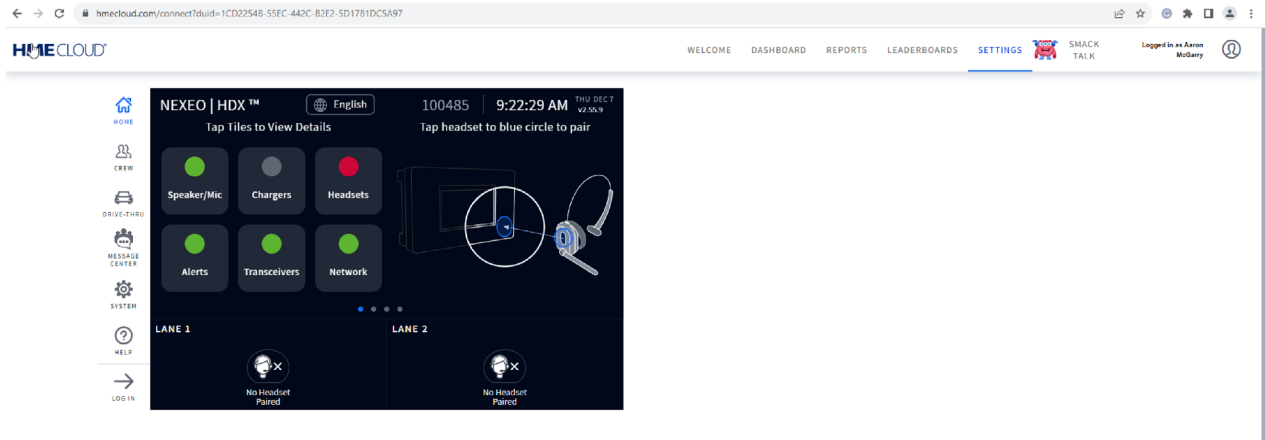

Fig. 8.5
5. A new page will open with your device's HOME screen displayed (Fig. 8.5). You can now log into your base station remotely and make any necessary changes such as configure and customize settings, record greeter messages and reminders, apply snapshots, and more.